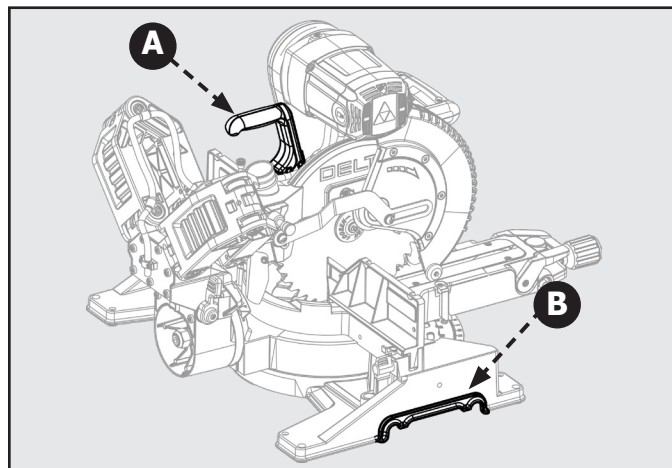

Figure 5
For transportation use the included carry handle (A) as shown in Fig. 5. You may also lift using the cast-in handle cut-outs (B) on both sides of the saw base as shown in Fig. 5.
1. Insert one of the support extensions (F) to the underside of the base at the cast-in handle cut-outs (B) shown in Figure 5.
2. Make sure support extension (F) is flush with the base and inserted into the rounded slots of the cut-outs (B). The rivets (G) are used to prevent the support extension from sliding out of the base during use. These rivets should be positioned on the inside of the base.
3. Place the extension clamp (E) onto the support extension and the screw that is pre-attached to the base.
4. Once the extension clamp (E) is in place, screw the M8 hex nut (D) provided (D) onto the screw.
5. Tighten the nut (D) with an M8 hex wrench to fully secure the support extension.